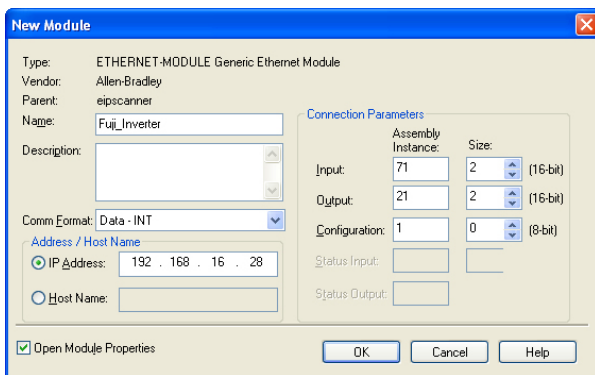

Figure 95: AC/DC Drive Profile Generic Ethernet Module Configuration
- 1) Complete all the steps in section 8.2.4. Please note that the Assembly Input Instance must be changed to 71 and the Assembly Output Instance must be changed to 21. Refer to Figure 95.